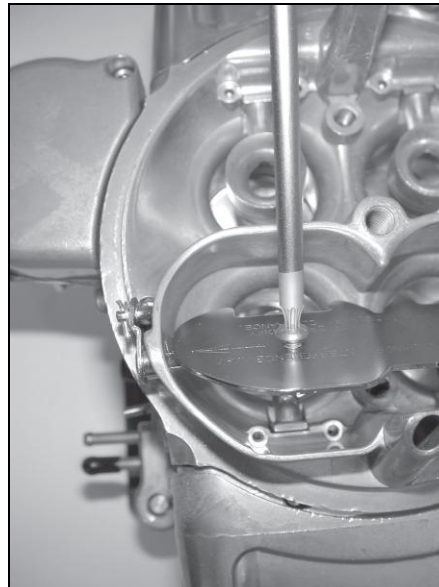

Figure 8
8. Use the two Torx® head screws to secure the choke flap to the choke butterfly shaft (Fig. 8). The flap has instructions stamped on its upper side. Make sure you can read the instructions and that the arrow points towards the choke rod. NOTE: It is extremely important that the choke flap is centered so it moves freely and does not bind. You may need to remove the flap to deburr the edges if it binds and reinstall. Once the choke flap is centered and moving freely, remove the Torx® head screws one at a time, place a drop of Loctite® 271 on them and reinstall. Wipe any excess Loctite® off the screw heads or shafts before proceeding.